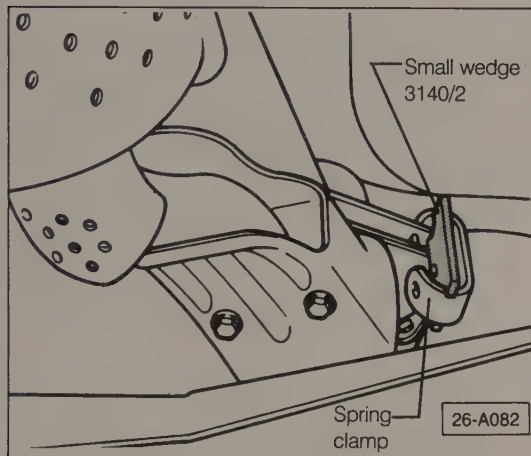

Fig. 4-8. Short wedge being installed in expanded spring clamp.
1. Push the front pipe to one side to expand the opposite clamp. Insert one short wedge in the expanded clamp as shown in Fig. 4-8. Push the pipe the opposite way to expand the other clamp and insert the other short wedge.